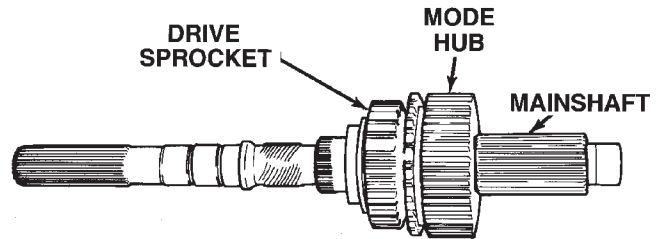

Fig. 61 Mainshaft Assembly Installation
(1) Lubricate mainshaft and hub and sprocket bores with transmission fluid.
(2) Install drive sprocket on mainshaft.
(3) Install mode hub on mainshaft.
(4) Install mode hub retaining ring. Be sure ring is fully seated in shaft groove before proceeding.
(5) Install assembled mainshaft, sprocket and hub (Fig. 61). Be sure shaft is seated in pilot bearing, planetary, and range sleeve.
(6) Install new pads on mode fork if necessary.